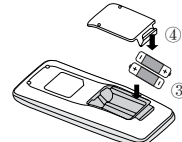

Fig.2
3. Place two 7# (AAA 1.5V) dry batteries, and make sure the position of + polar and – polar is correct (as shown in Fig 2 ③).
4. Reinstall the cover (as shown in Fig 2 ④).